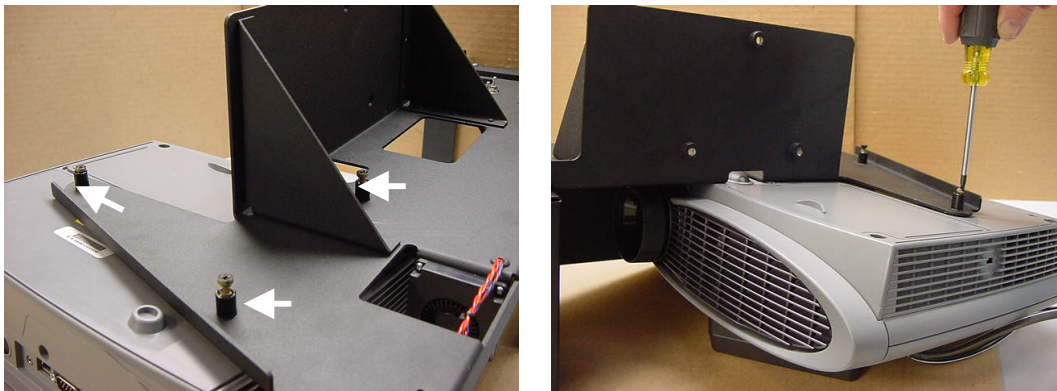

Figure 5. Secure the projector to the EMA.
3. Connect the projector to the DTS-EMA assembly. Secure using the three captive Phillips screws (see arrows, Figure 5).